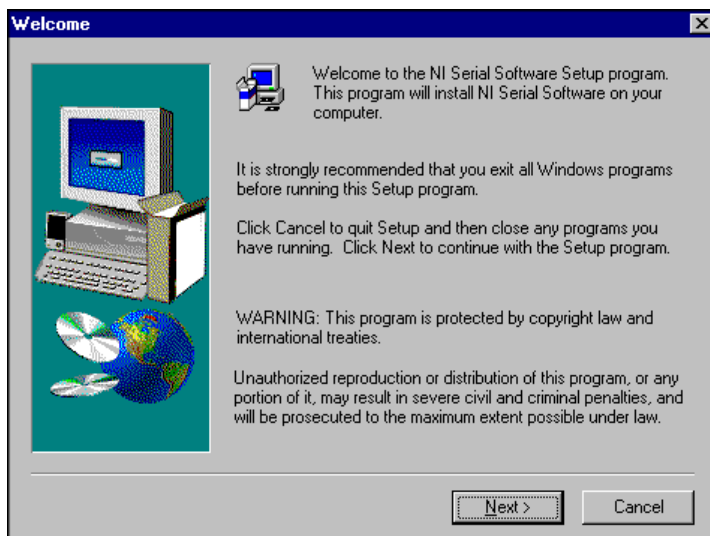

Figure 2-2. NI-Serial Setup Screen
6. The setup wizard begins with the screen shown in Figure 2-2.